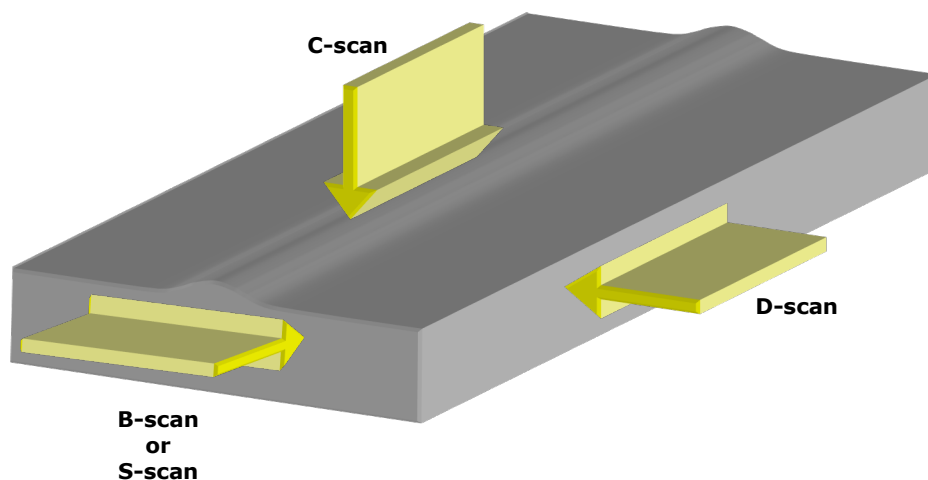

Fig. 8
- 1.3.1. The **B-Scan Direction** control has 2 choices: **Primary** or **Secondary**. B-Scan direction refers to the creation of a B-scan image in relation to direction of probe movement, e.g. if **Primary** is chosen for the B-scan direction, then the secondary movement axis will trigger the creation of a D-scan (Fig. 8).